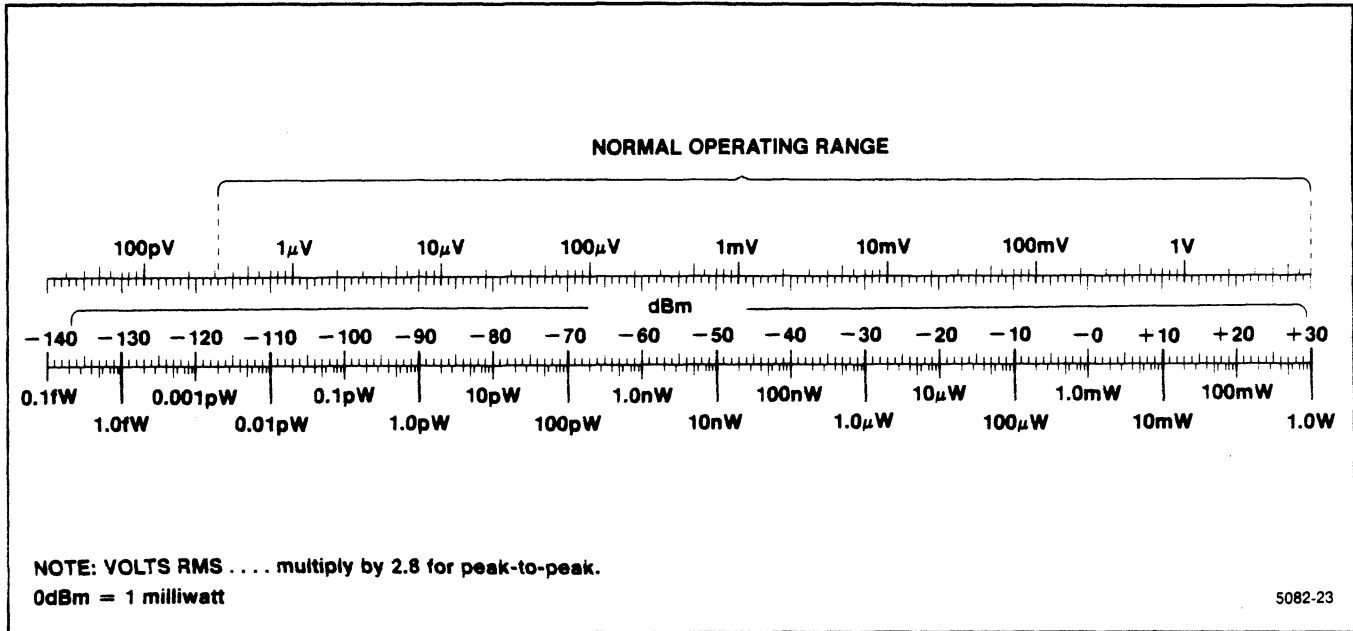

Figure 6-3. Volts-dBm-Watts conversion chart for 50  $\Omega$  impedance.
**Amplitude Conversion** — A conversion chart, as shown in Figure 6-3, can be used to convert input signal levels of voltage or power to dBm, dBV, dBmV, and dBμV.